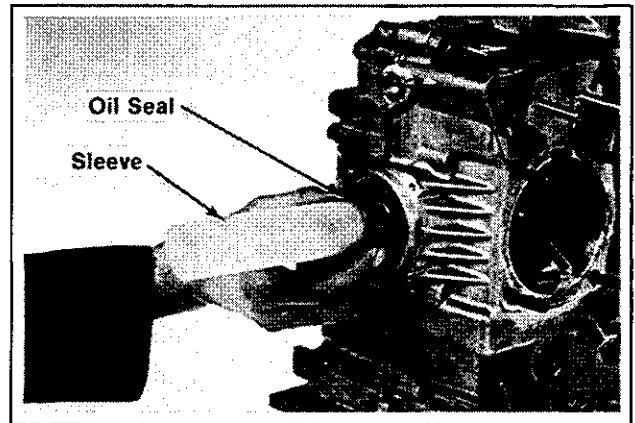

**Figure 11-20. Restaking Camshaft Bore Plug.**
8. Locate a center punch in the previous stake marks surrounding the camshaft bore plug. Restake the plug securely in place. Refer to Figure 11-20.